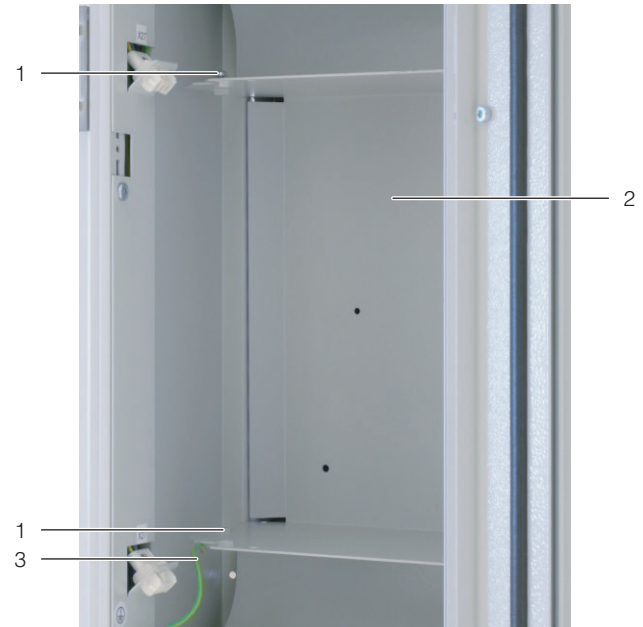

Fig. 35: Metal cover – LCP Inline flush version
- Disconnect the earth connection on the metal cover (Fig. 35, item 3).
- Loosen the two assembly screws at the top and bottom (Fig. 35, item 1) used to secure the metal cover in the rack mount.
- Remove the metal cover (Fig. 35, item 2) from the rack mount.